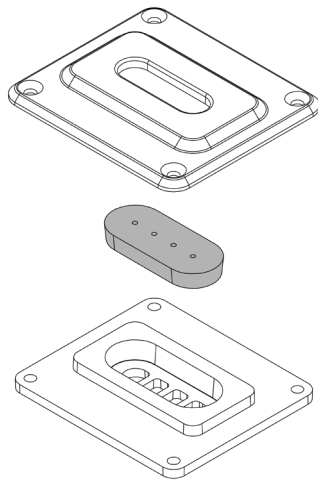
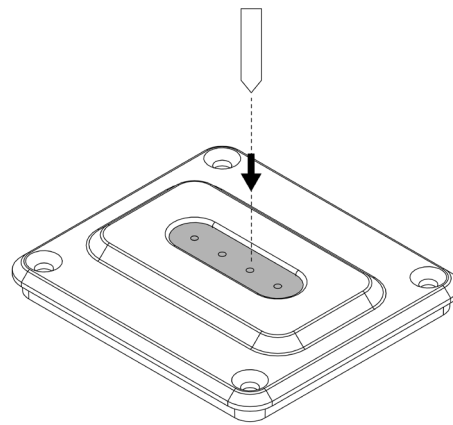

Figure 4
Figure 5
- Stack the grommet assembly on an elevated flat surface (Figure 4) and drill through the selected hole(s) with an electric drill and standard #1 drill bit (Figure 5)